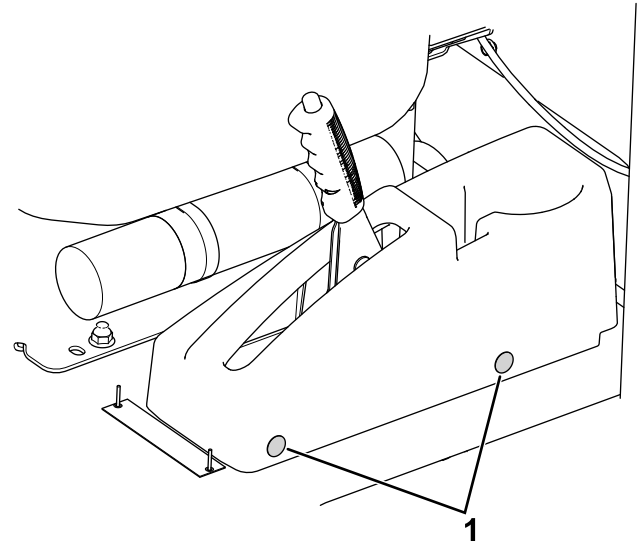

Figure 1
1. Remove the existing plugs (Figure 1) from both sides of the parking-brake cover.